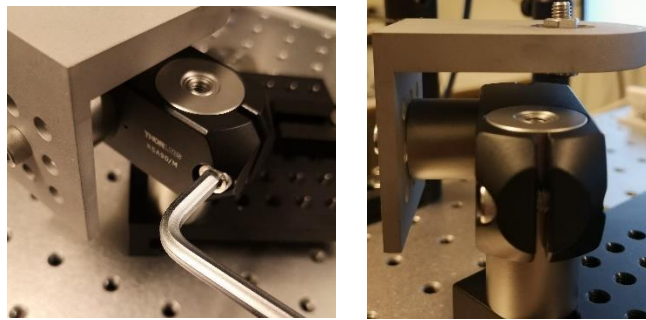

Figure 28: Spraying setup: a hanging wheel between two holes on opposite sides of a paper box.
- iii. Spray the wheel with black rubber spray approximately ten times, until the surface is uniformly opaque black. Between spray sessions, wait  $\sim 10$  min until it dries (see Fig.28).